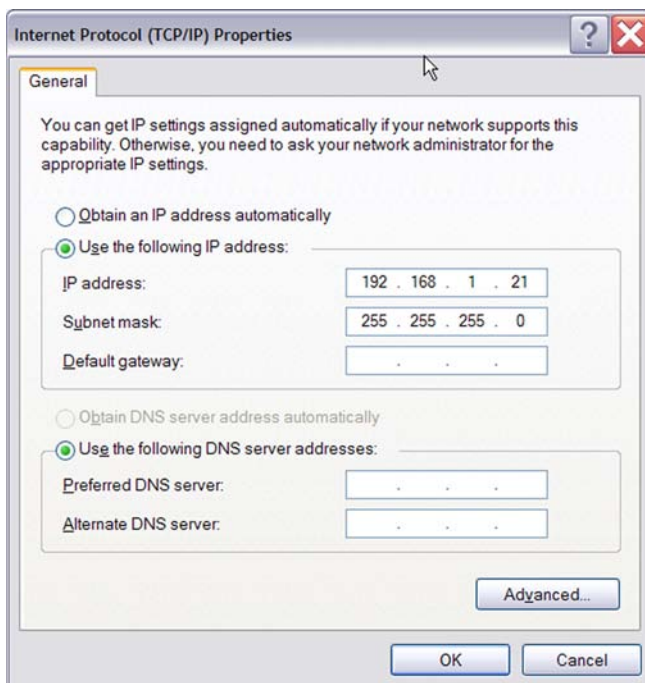

Figure 10. The Internet Protocol Properties Dialog
4. In the panel labeled This connection uses the following items:, select the Internet Protocol (TCP/IP) item to highlight it, and click the Properties button. The Internet Protocol (TCP/IP) Properties dialog box appears (Figure 10).